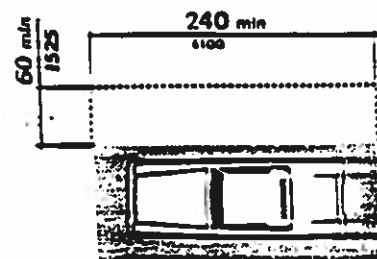

Fig. 10
**4.6.6 Passenger Loading Zones.** Passenger loading zones shall provide an access aisle at least 60 in (1525 mm) wide and 20 ft (240 in) (6100 mm) long adjacent and parallel to the vehicle pull-up space (see Fig. 10). If there are curbs between the access aisle and the vehicle pull-up space, then a curb ramp complying with 4.7 shall be provided. Vehicle standing spaces and access aisles shall be level with